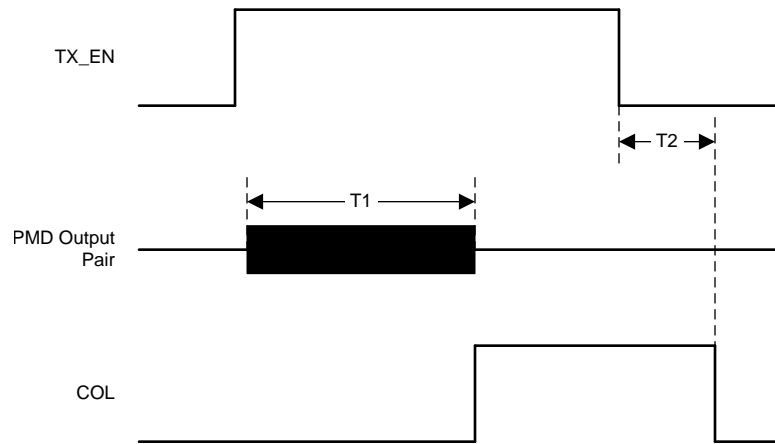

**图 12. Normal Link Pulse(s) Timing**
(1) Ensured by production test, characterization or design.
(2) See Figure 12.